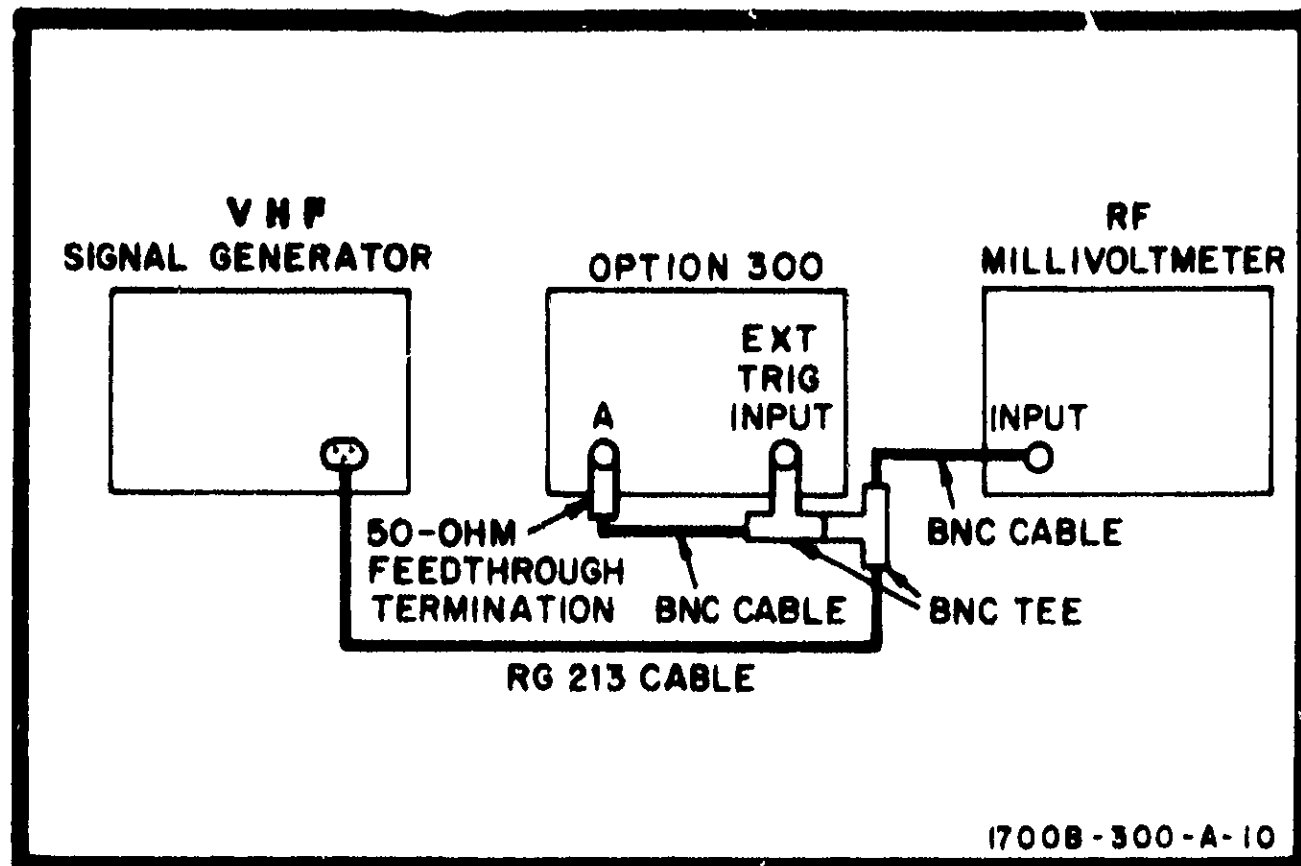

Figure 5-7. Triggering Test Setup
- Connect instruments as shown in figure 5-7.